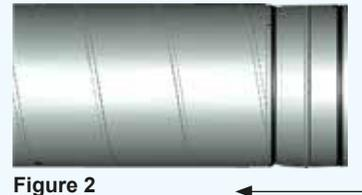

Figure 2
2. Check that the gasket is in full contact with the inside of the spiral pipe all the way around so that the lip is not twisted in one direction or the other. (*figure 2*).